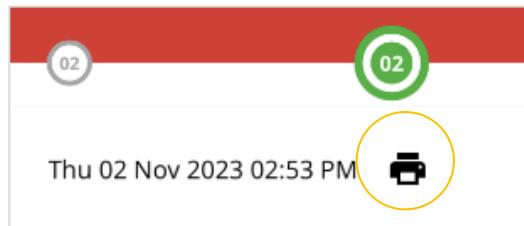

Figure 37: Printer button to access printing functions
1. Click the Print button (printer icon) located below the timeline, on the right-hand side (Figure 37).